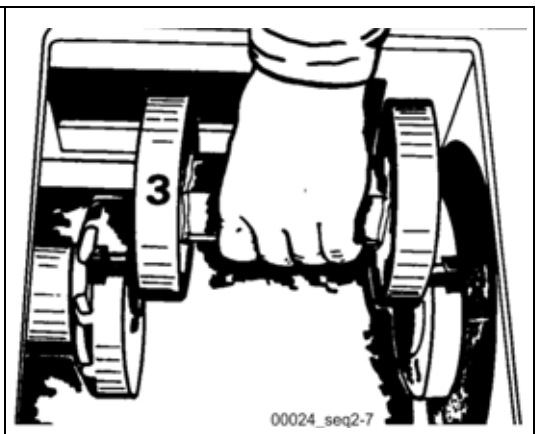

Fig. 357
- Remove the distance piece (Fig. 357).